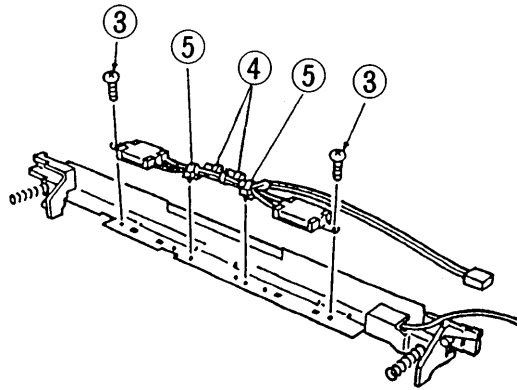

Figure 4-326
- 7) While butting the two heaters against the transfer guide as shown in Figure 4-326, fix them in place using two screws ③; then, fix the harness using two harness bands ④ (front, rear).
- 8) Fix the harness with two SK binders ⑤ (front, rear) in place, and insert it into the transfer guide.